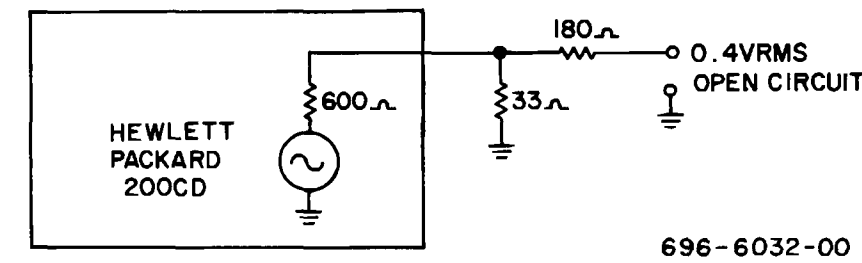

FIGURE 5-7C TEST CIRCUIT
4. A transmitter standard modulation signal is a 1KHz tone with 0.4 VRMS open circuit voltage as illustrated in the test circuit. (Figure 5-7C)